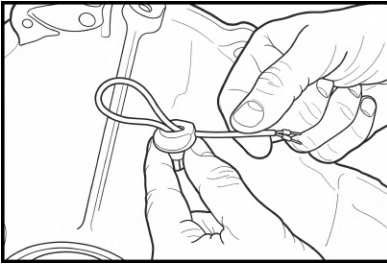
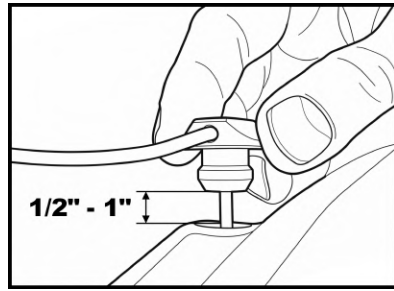

Fig. 41
Fig. 42
3.15 Pull the end of the cable through the side opening. This will allow the magnet cable to rotate and lock into position at a 90° angle in the rubber seal. **(Fig. 41)** Before installing, verify that the clearance $1/2''$ between the differential housing and the rubber seal is correctly set. **(Fig. 42)** Apply gasket maker to the narrow section of the rubber seal that will be inserted into the housing hole.